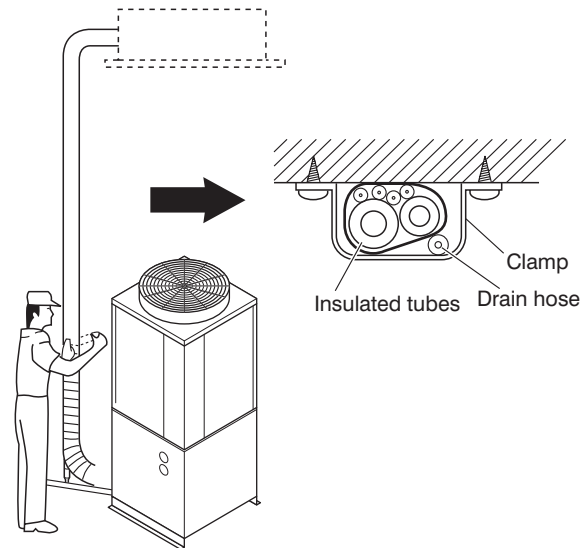

Fig. 5-9
- (1) At this time, the refrigerant tubes (and electrical wiring if local codes permit) should be taped together with armoring tape in 1 bundle. To prevent the condensation from overflowing the drain pan, keep the drain hose separate from the refrigerant tubing.
- (2) Wrap the armoring tape from the bottom of the outdoor unit to the top of the tubing where it enters the wall. As you wrap the tubing, overlap half of each previous tape turn.
- (3) Clamp the tubing bundle to the wall, using 1 clamp approx. each ft. (Fig. 5-9)